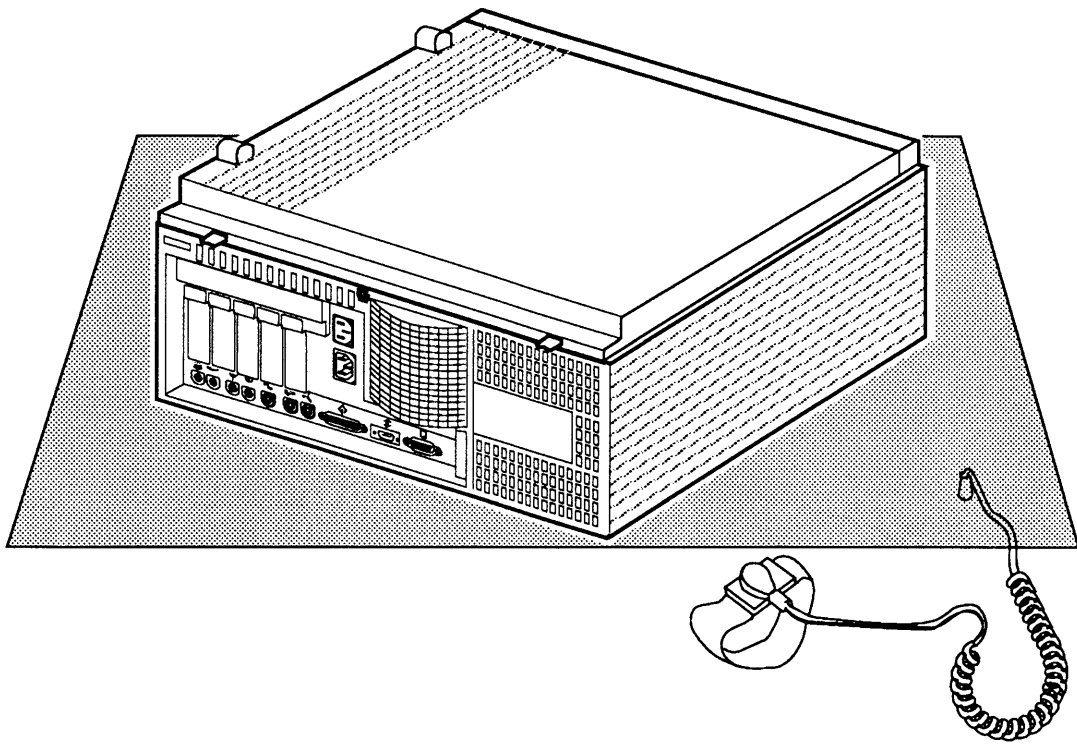

Figure 2-1 Take-Apart Orientation
- Place the system on an antistatic mat with the left side on the mat, as shown in **Figure 2-1**. With the system on its side, you'll be able to work without the risk of tipping the system over.